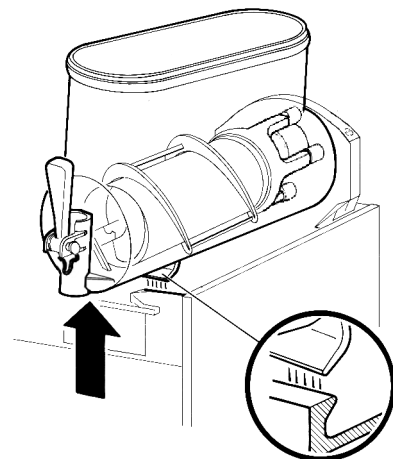
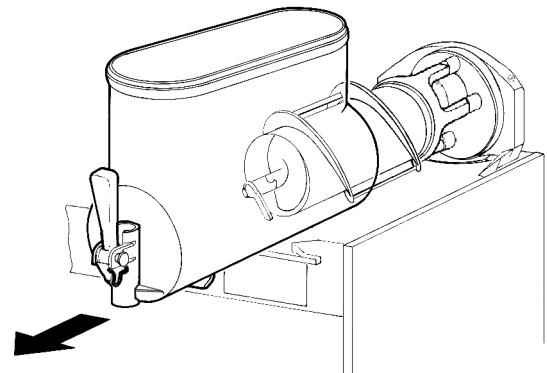

figure 4
figure 5
**2** Remove the bowl by lifting its faucet side up and off the fastening hooks (see figure 4) and slide it out (see figure 5).